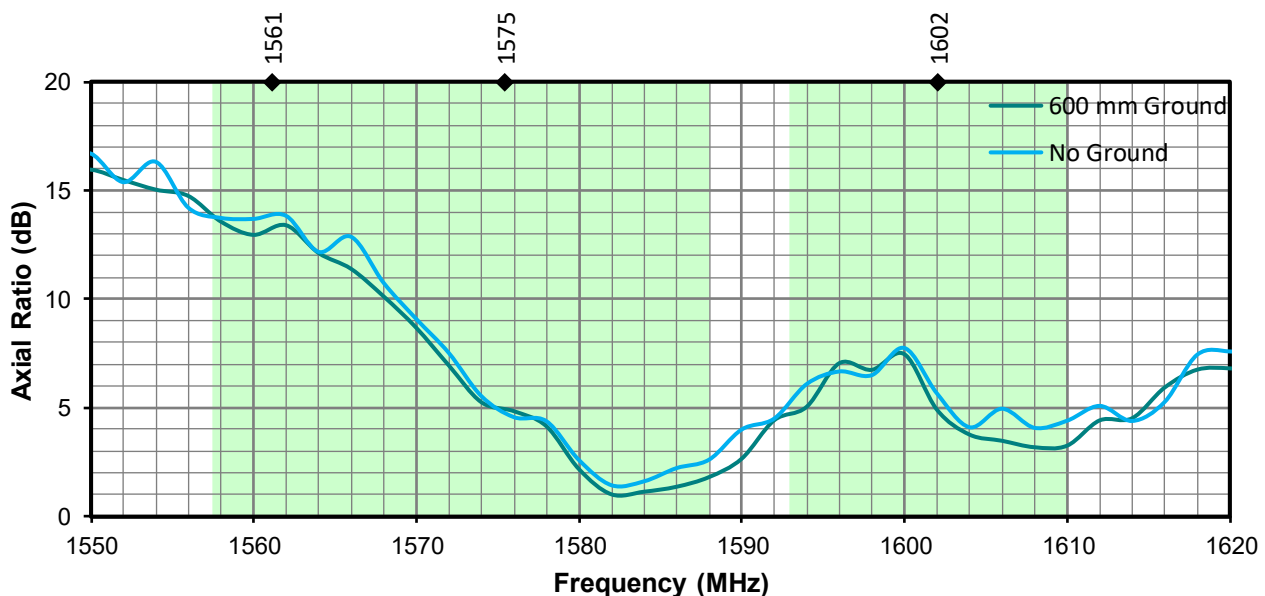

Figure 22. Antenna Axial Ratio, GNSS
Axial Ratio (**Figure 22**) is the ratio of orthogonal components of an E-field. A circularly polarized field is made up of two orthogonal E-field components of equal amplitude (and 90 degrees out of phase). Axial ratio provides a measure of the quality of antenna circular polarization, the lower the value (in dB), the better the circular polarization. The ideal value of the axial ratio for circularly polarized fields is **0 dB (1)**. In practice, no antenna is perfectly circular in polarization, less than **3 dB** might be an adequate value.